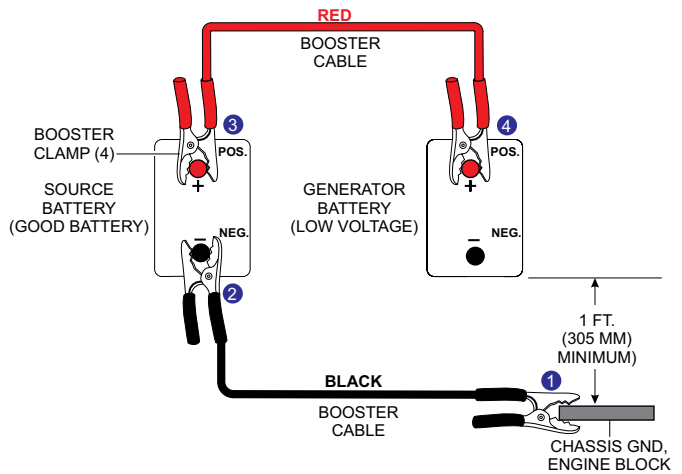

Figure 74. Removing Booster Cables
1. Remove the booster cable with the **BLACK** clamp (Figure 74) from the negative ground point (chassis ground/frame) on the generator.